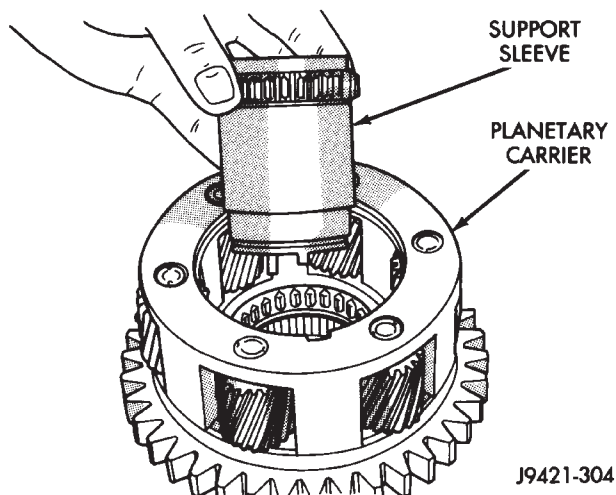

Fig. 45 Support Sleeve Removal
- (5) Remove support sleeve from carrier (Fig. 45).